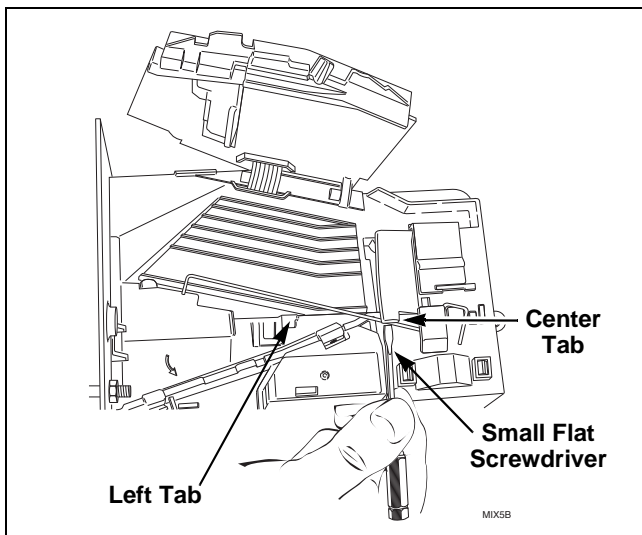

Figure 8
12. Use a small flathead screwdriver to push spring under center tab. Refer to *Figure 8*.